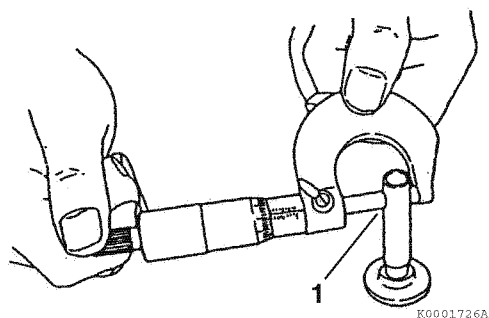

Figure 6-75
2. Measure the outside diameter of the tappet stem (**Figure 6-75, (1)**). See *Tappet* on page 6-14 for the service limit.